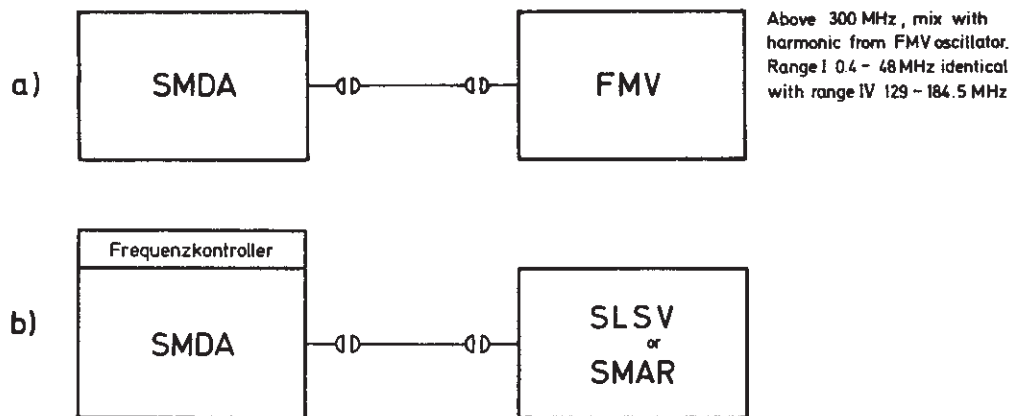

Fig. 3-15 Checking of internal FM und  $\phi M$
**Measurement:** According to Fig. 3-15 a):
According to Fig. 3-15 b): Adjust the following controls:
Frequency deviation as for Fig. 3-15 a)
For the **test setup** see Fig. 3-15 section 3.2.3.5.
For checking the phase modulation proceed as for checking the frequency modulation (see sections 3.2.3.5 and 3.2.3.6) according to Fig. 3-15 at a modulation frequency of 1 kHz with  $\Delta f/f_{\text{mod}}$  corresponding to the frequency deviation. Set switch  $\varphi\text{M-FM}$  to position  $\varphi\text{M}$  and the type-of-indication selector to  $\varphi\text{M} [\Delta f/f_{\text{MOD}}]$ .